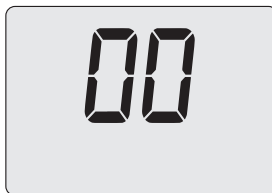

Fig. 8.52
- By using buttons 13 or 14 (Fig. 8.31) it is possible to modify the value of parameter A50 (Fig. 8.52).